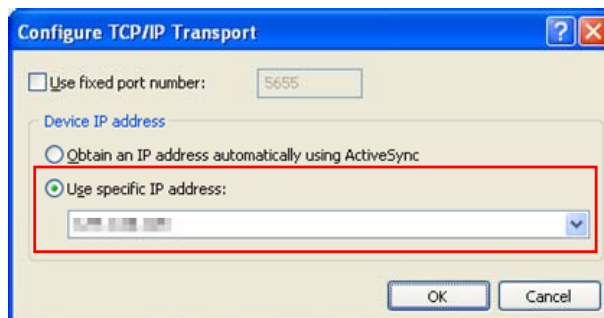

Figure 5.27
6. Click **Transport:** to access **Configure...** and set up **Device IP address** as shown in Figure 5.27.